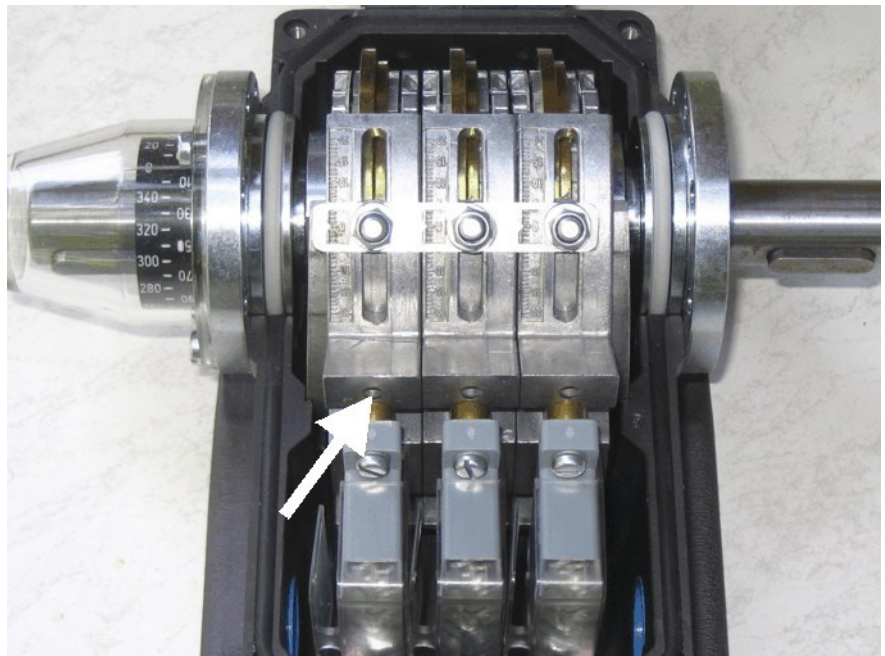

Fig. 11: Rotary cam switch model BSW 816-204-... with adjusting bracket
2. Insert a pin into the hole on the bracket (see Fig. 11, white arrow) and slide the bracket.